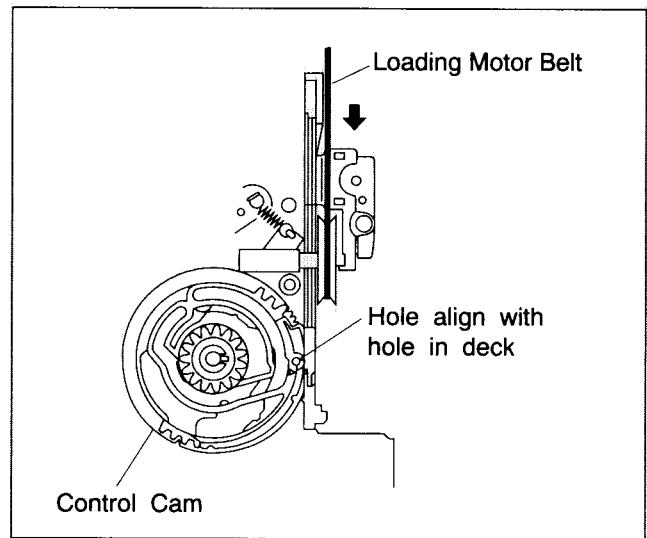

Fig. 2-4-1
- (1) Turn the loading motor belt by hand.
- (2) Confirm that the hole of the control cam are aligned to the deck hole as shown in Fig.2-4-1.